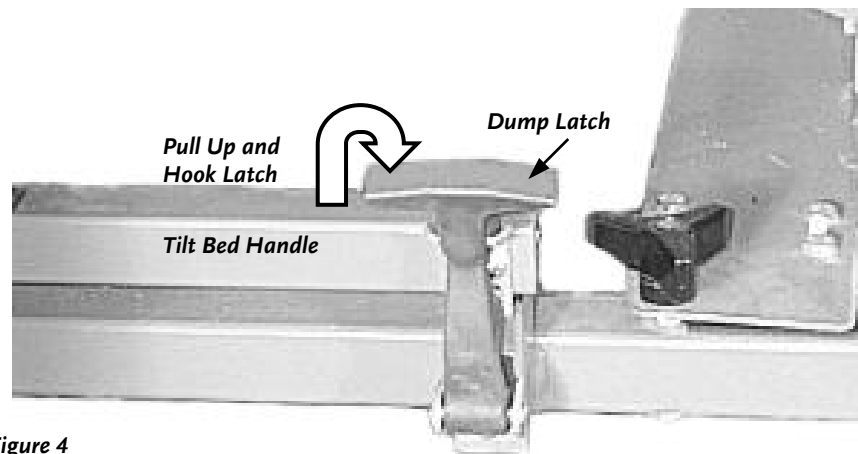
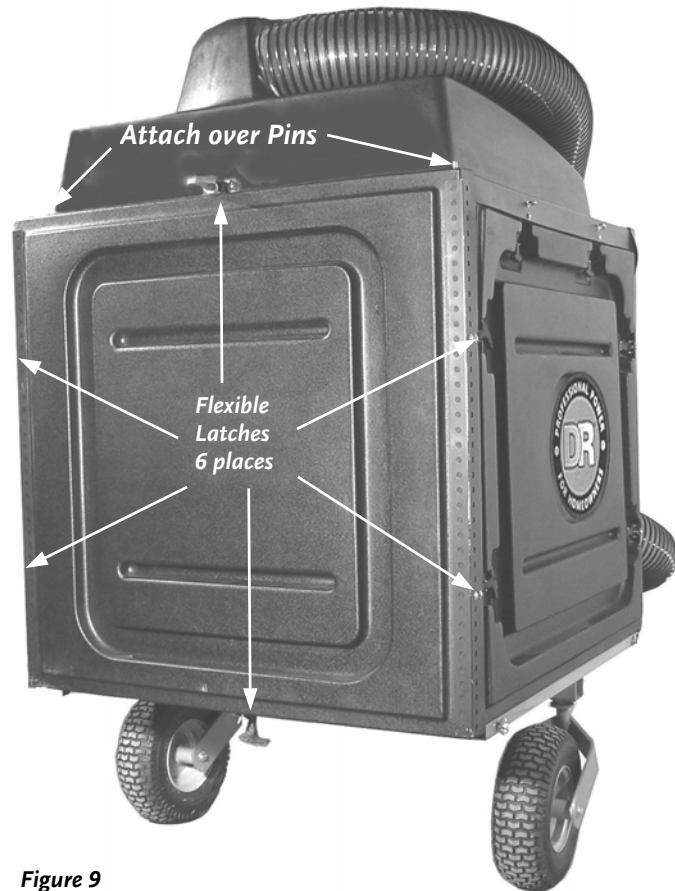

Figure 4
Figure 9
5. Secure the Tilt Bed in the down position before proceeding with the Collector Box installation by hooking the Flexible Dump Latch into place (**Figure 4**).
- Lower the Bed and secure in place with the Dump Latch (**Figure 4** on page 14). Attach the Rear Panel on the protruding Pins and secure in place with the six (6) Flexible Latches (**Figure 9**).